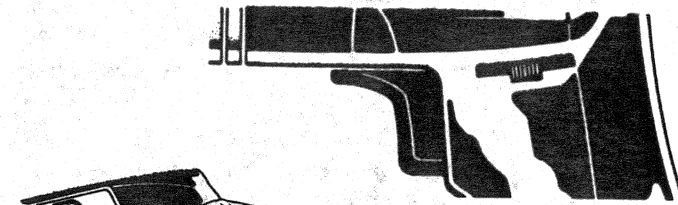

FIGURE 1
- Move Switch Control Button to the center of its slot to LOCK Trigger Switch "OFF" (Figure 1).